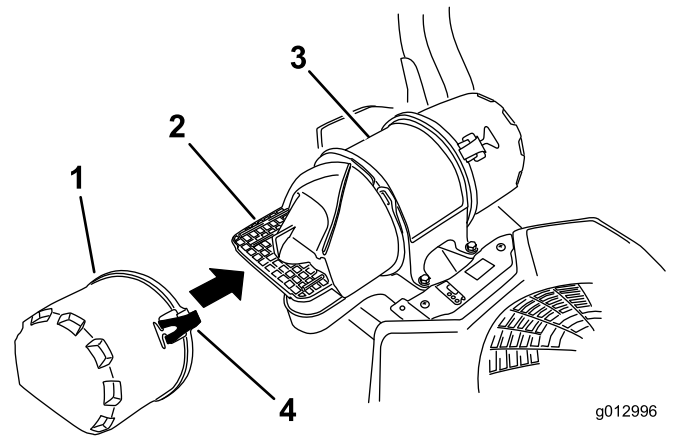

Figure 31
3. Release the latches on the air cleaner and pull the air-inlet cover off the air-cleaner body (Figure 31).
5. Install the air-inlet cover and secure it with the latches (Figure 31).
- Install the air-cleaner cover and secure the latches (Figure 31).